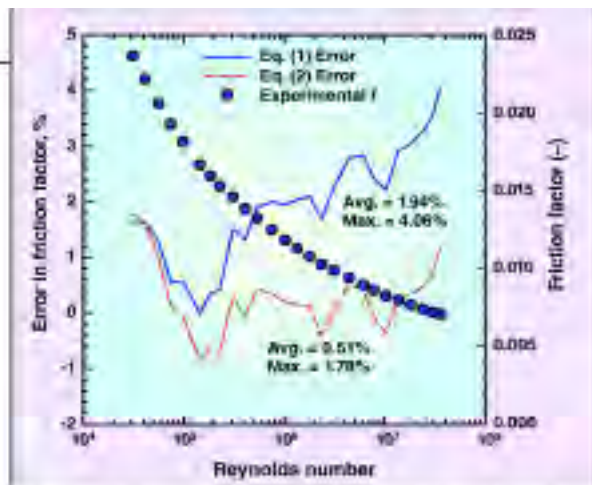
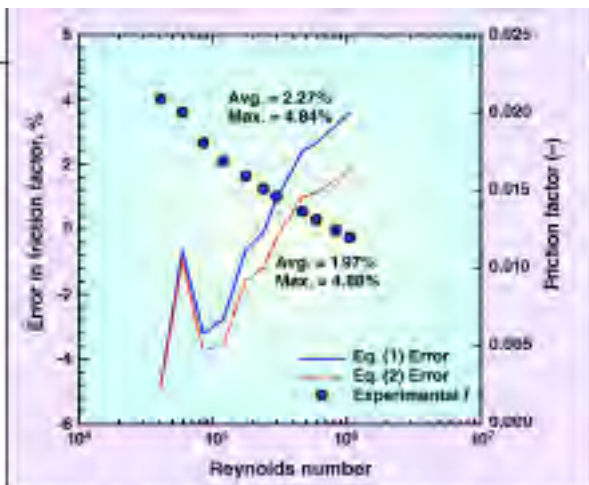
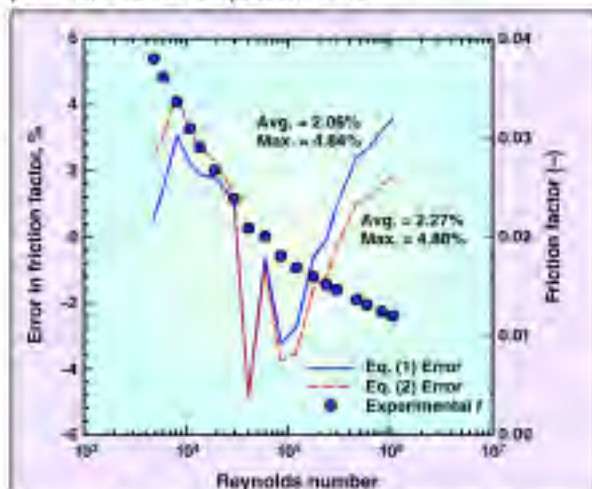

FIGURE 1. Equation (2) was a slightly better descriptor of experimental data for compressed air flow
FIGURE 2. Error values for both equations were similar for data from room-temperature gases
FIGURE 3. Equation (2) has applicability outside the Reynolds number range over which it was initially derived
A total of 28 f versus Re data points in the $31 \times 10^3 < Re < 35 \times 10^6$ range were obtained for compressed air [6], and this data set was used to derive Equation (2). Experimental f data, along with errors for Equations (1) and (2) (determined using Equation 9) are shown in Figure 1. The average (absolute) errors were 1.94% and 0.51%, while the maximum errors were 4.06% and 1.78%, respectively, for Equations 1 and 2. Thus Equation (2) was a slightly better descriptor of experimental data (the experimental data in Figure 1 were associated with 1.1% error) [6].
In this study, a total of 59 data points were obtained over the $11.21 < Re < 1.0 \times 10^6$ range and the data were characterized by experimental errors of 2–4% [6, 9]. In the initial comparison, 11 data points from the range $40.85 \times 10^3 < Re < 1.05 \times 10^6$ were chosen since they were in the $31 \times 10^3 < Re < 35 \times 10^6$ range for which Equation (2) was derived. Experimental f versus Re data along with error profiles from Equations (1) and (2) is shown in Figure 2. Unlike errors observed in Figure 1, errors in Equations (1) and (2) were similar, with average (absolute) values of 2.27% and 1.97%, and maximum values of 4.84% and 4.88%, respectively.
this comparison provides information on the applicability of Equation (2) to a wider range of turbulent flow. Experimental data, along with error profiles from Equations (1) and (2), are shown in Figure 3. While the maximum errors were identical to those in Figure 2, the average (absolute) error for Equation (2) in Figure 3 was slightly higher than in Figure 2 (2.27% versus 1.97%) and this was primarily because Equation (2) underestimated f values at lower Re numbers (Figure 3). However, given the inherent error in experimental data (2–4%) and the relatively low and similar average and maximum errors for Equations (1) and (2) in Figure 3, it is clear that Equation (2) has applicability outside the Re range over which it was initially derived.